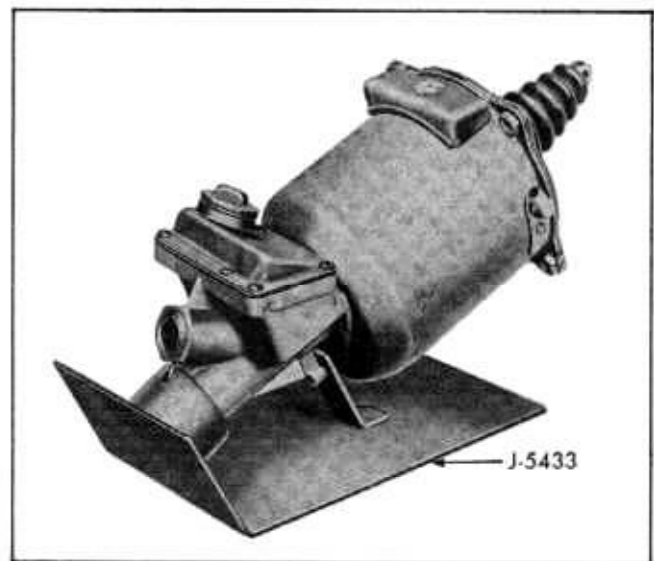

Fig. 5-17 Power Brake Unit in Holding Fixture
The Bendix power brake unit can be identified by the die-cast hydraulic cylinder and pressed steel filler cap (Fig. 5-17). The Moraine power brake unit can be identified by the cast iron master cylinder and cast iron filler cap (Fig. 5-39).
2. Mount unit in holding fixture J-5433 (Fig. 5-17). If holding fixture is not available, clamp hydraulic cylinder in vise.